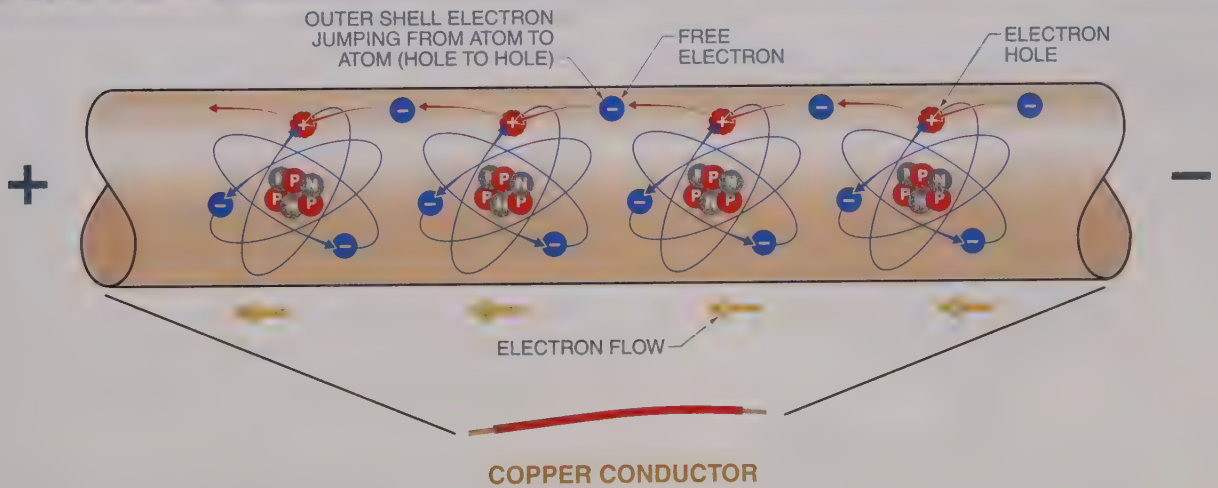

Figure 1-2. A conductor allows free electrons to pass readily through it.
Conductors. A *conductor* is a material that has very little resistance and permits electrons to move through it easily. Conductors offer very little resistance to electron flow and conduct electricity very well. By applying a negative charge to one side of the conductor and a positive charge to the other side of the conductor, electrons are forced to move through the conductor. This movement is called current and is expressed in amperes (A). See Figure 1-2.